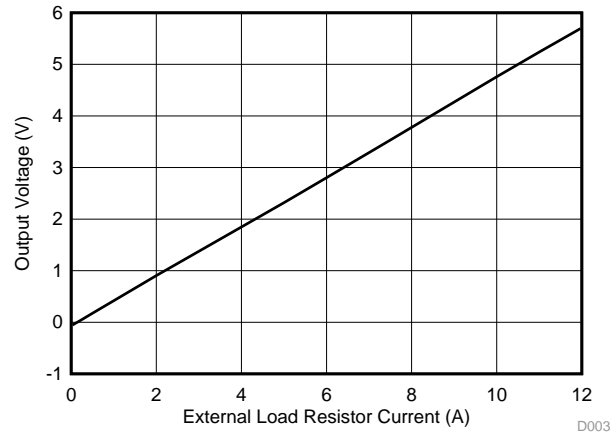

图 5. Output Voltage Versus Load Current
4. Turn on the DC power supply connected to the external Vin responsible for providing the input load current. 图 5 gives the relationship between the input load current and the output voltage measured across the outputs OUT+ and OUT-.
节 3.1.1 details the setup procedure for high-side current testing. 图 5 shows the linear relationship between the measured input load current and the output voltage across OUT+ and OUT- or $V_{OUT} = (OUT+) - (OUT-)$.